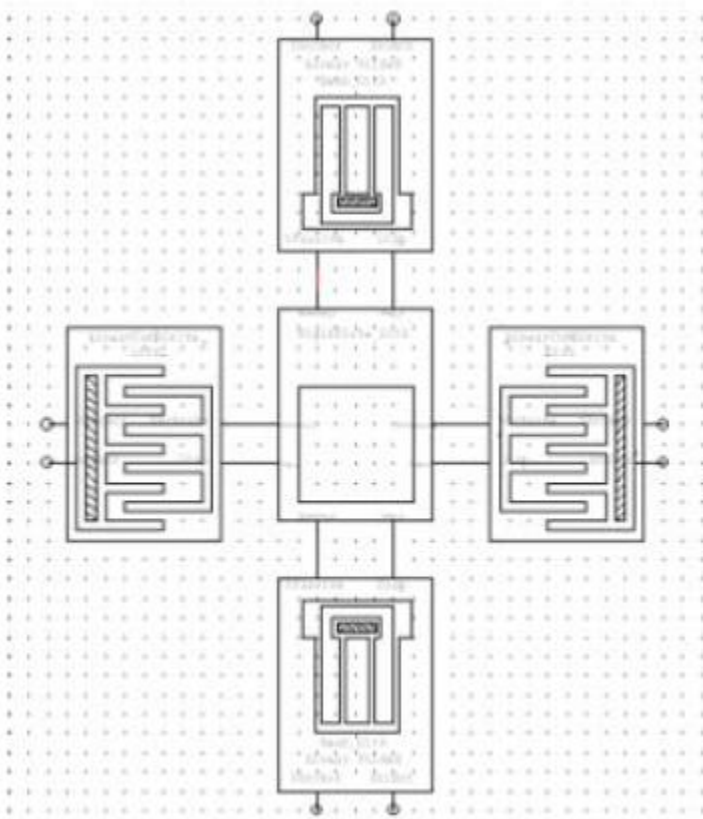

Figure 3: Schematic view of the wired elements
- ✂ Repeat this process to wire the plate with the other components (see Figure 3).